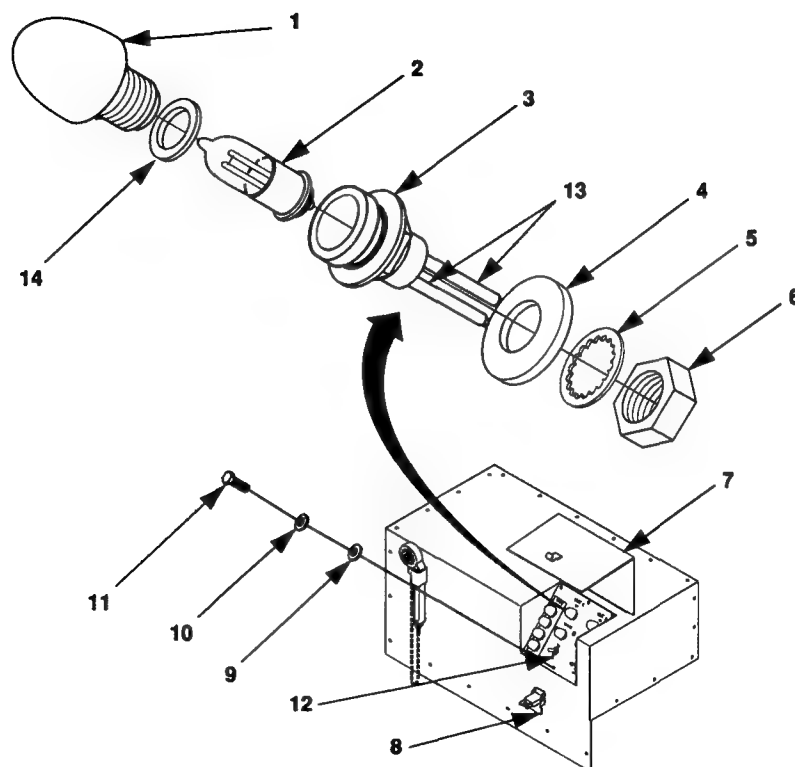

Figure 4-13. Indicator Light Replacement.
1. Release clamping catch (8, figure 4-13) and open control panel access cover (7).
2. Remove 8 screws (11), flat washers (9), lock washers (10) and control panel assembly (12). Discard lock washers.